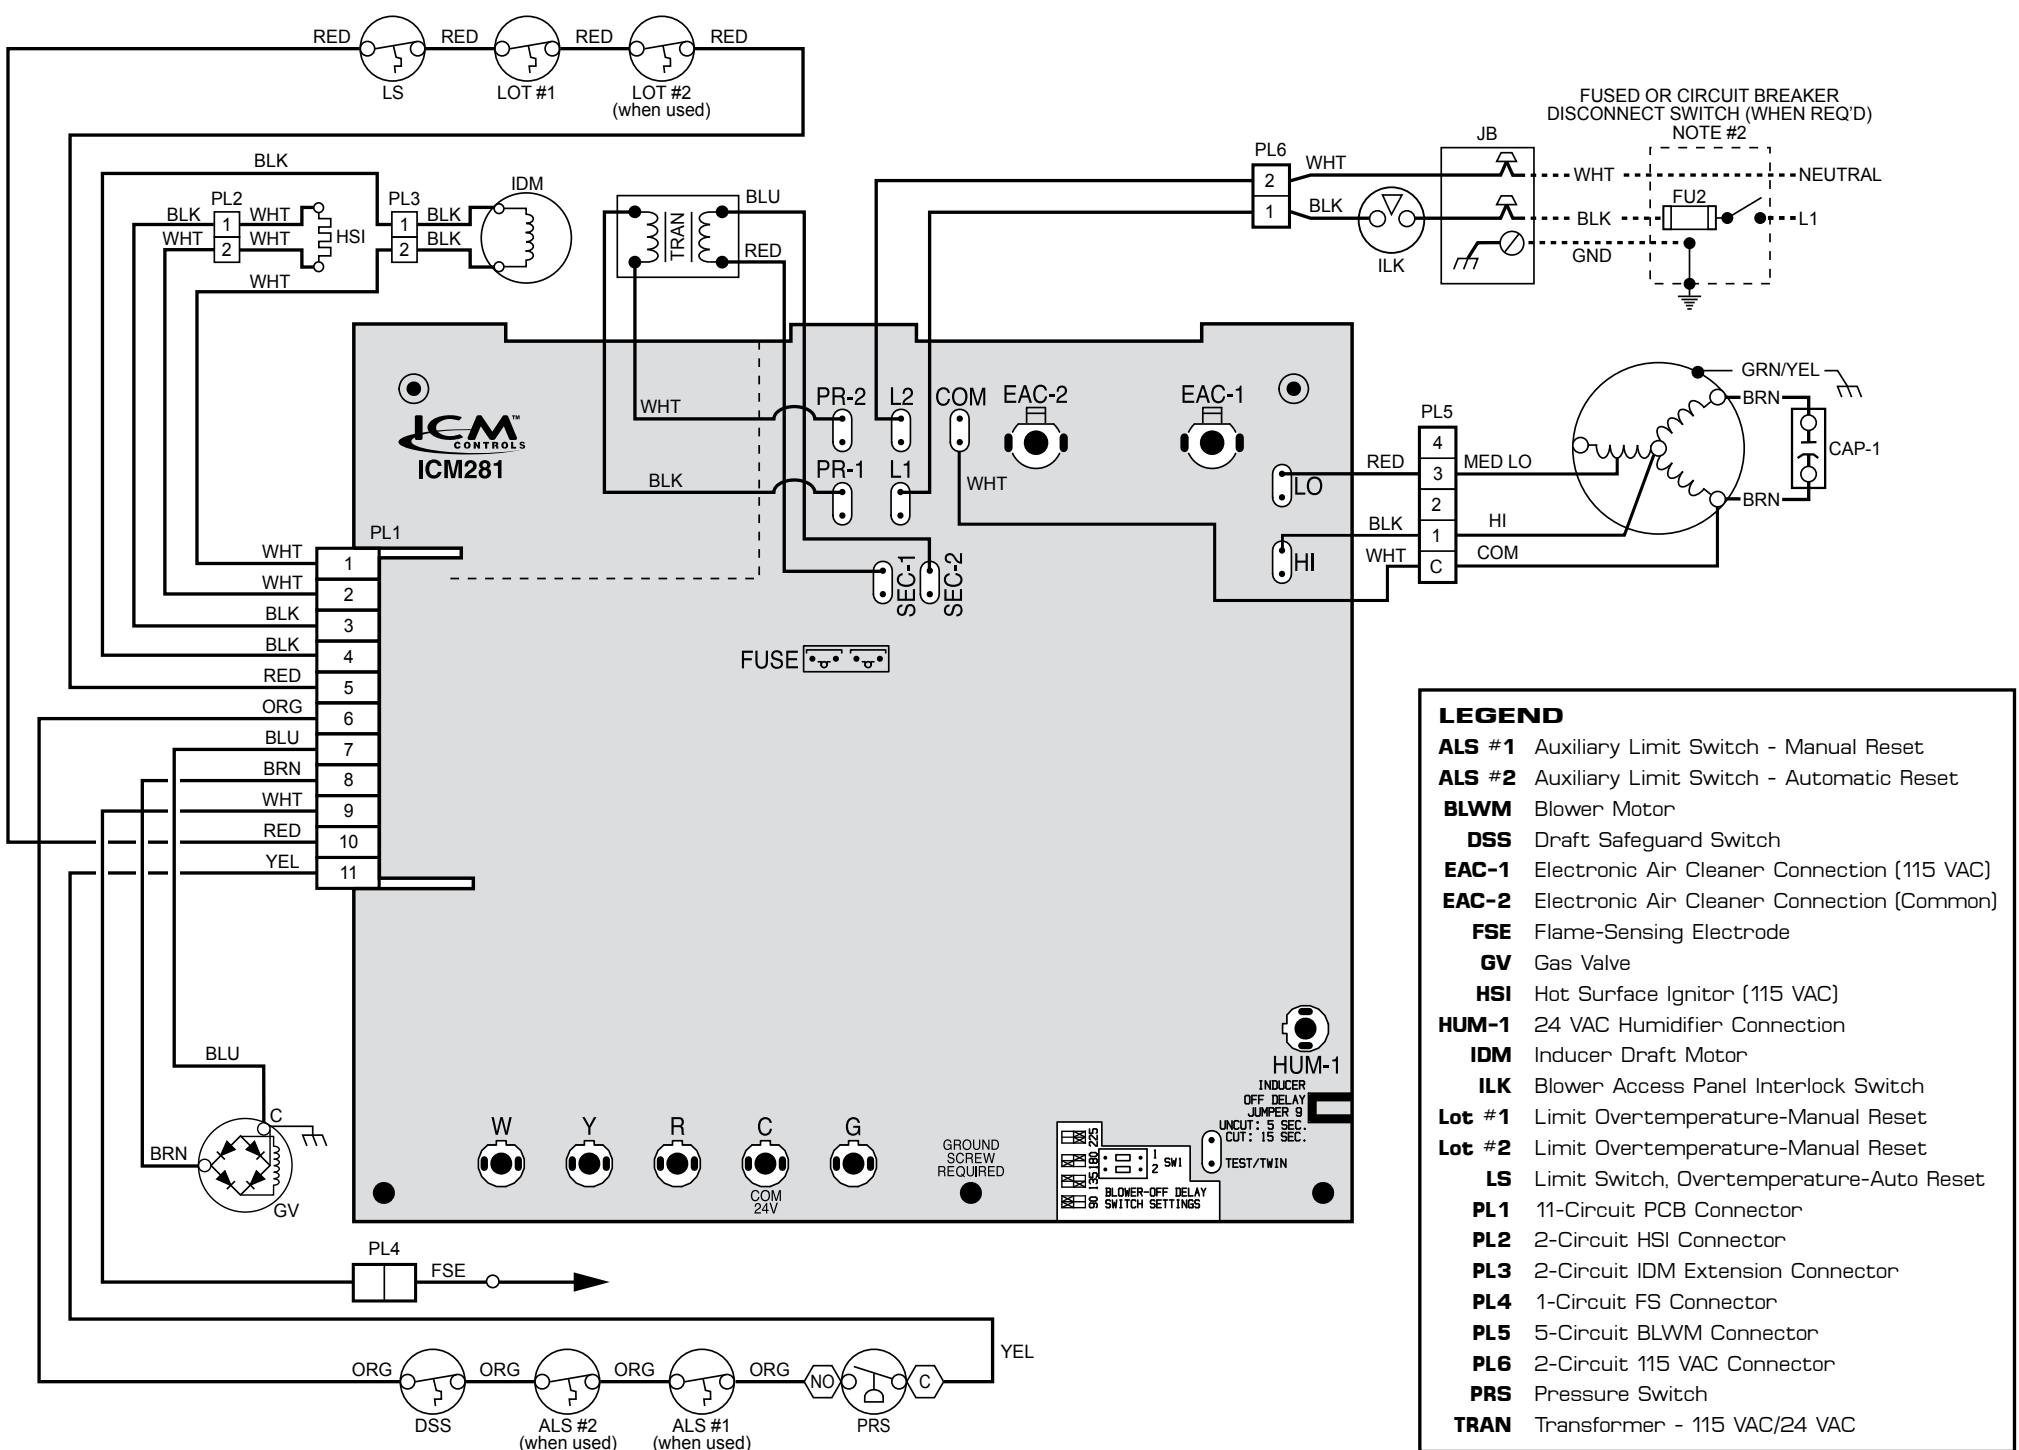

Figure 1 – Bottom Right Corner of Control Board
- For 90 percent efficient furnaces, clip JW9 jumper wire. The JW9 jumper is found close to the right hand corner of the circuit board, beneath the HUM-1 terminal (see Figure 1). This will result in a 15-second inducer OFF delay.
- Set blower off delay. Blower off delay DIP switch SW1 is found near the right-hand corner of the board (see Figure 1).
To configure your control boards for twinning, simply (1) install each control board according to the installation instructions; (2) connect the TWIN terminals together (see Fig. 1); and (3) connect the 24 VAC common together. A common ground between the two furnaces is also required.